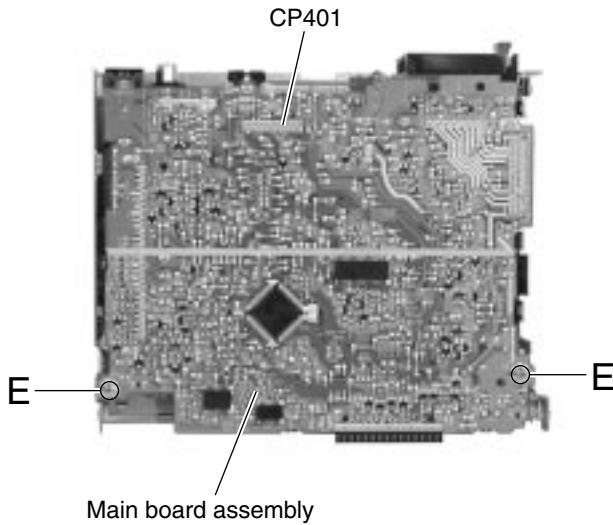

Fig. 7
■ Removing the main amplifier board assembly (See Fig.7)
■ Removing the cassette holder and the holder arm in the eject mode (See Fig.7 and 8)